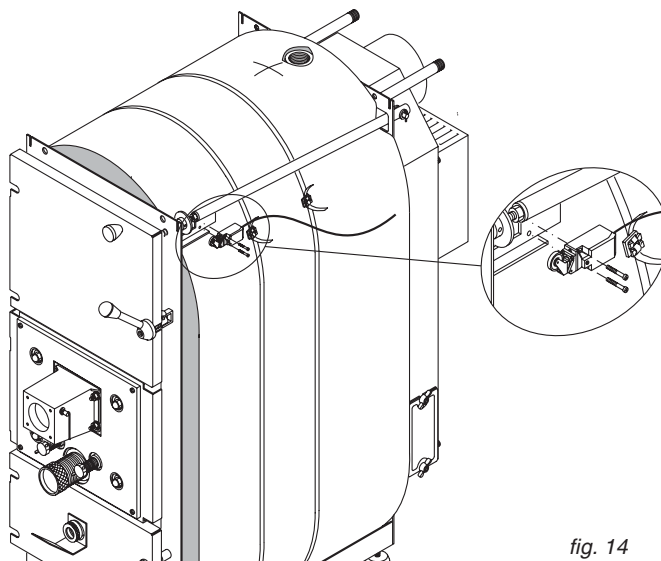

fig. 14
- Microswitch which has to be fitted to the mechanism controlling the bypass rod (TKS) as shown in fig. 14 page 17.